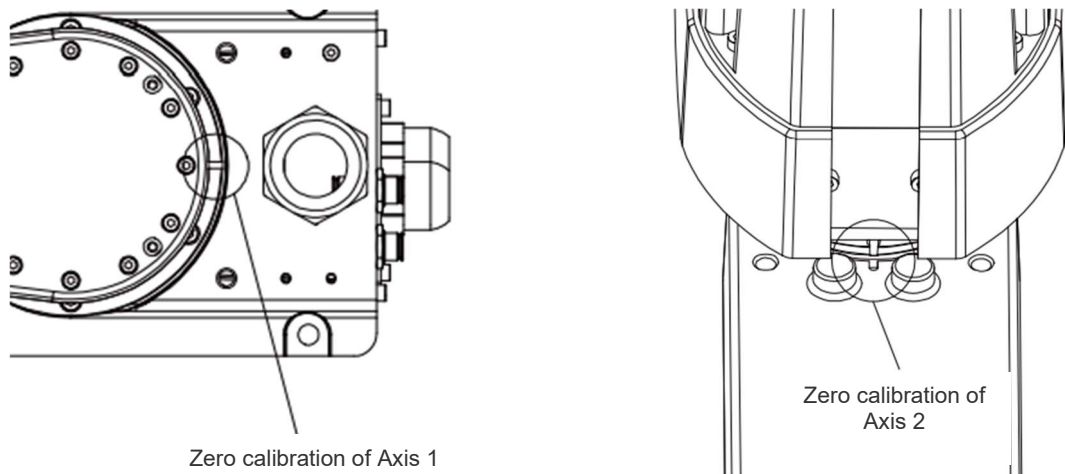
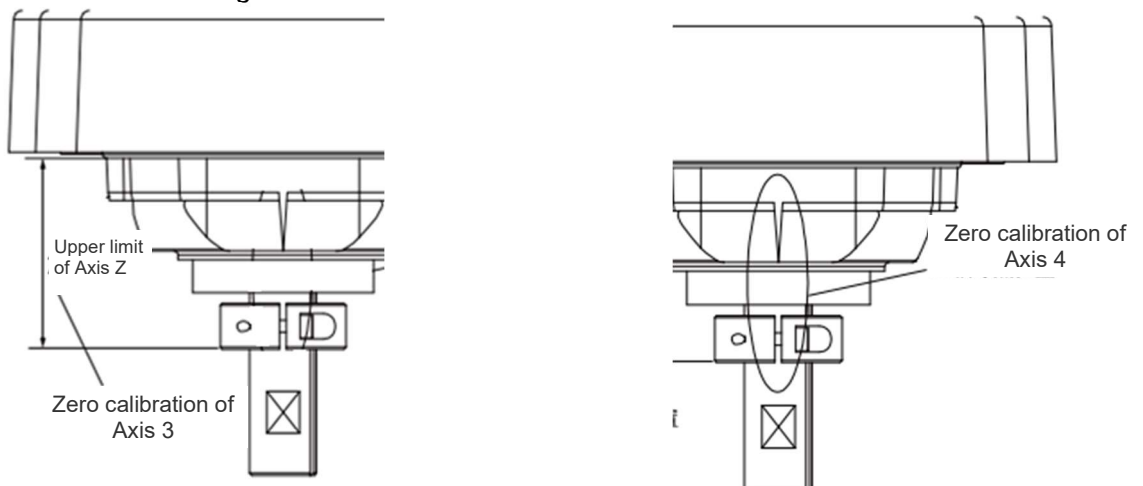

Fig. 7.8 Zero Positions of Axis 1 and 2
Fig. 7.9 Zero Positions of Axis 3 and 4
1. The SCARA robot aligns the zero-point reference marks of each axis (referring Fig.7.8 and Fig.7.9)